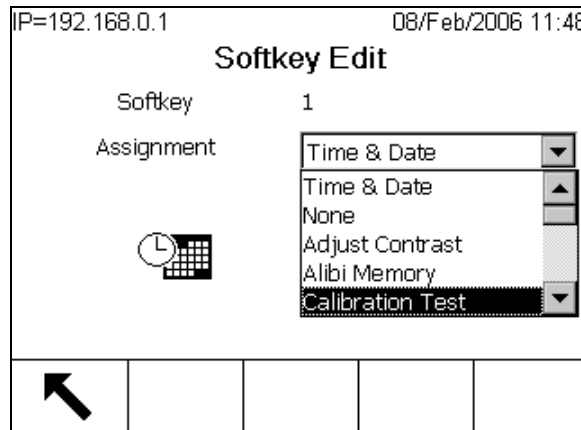

Figure E-4: Softkey Edit Screen
|  | Edit | Opens the Softkey Edit screen shown in Figure E-4, allowing editing of selected softkey's assignment |
2. Press the EDIT softkey . The Softkey Edit screen (Figure E-4) displays. The softkey position number selected for editing is shown on the screen along with the current assignment.